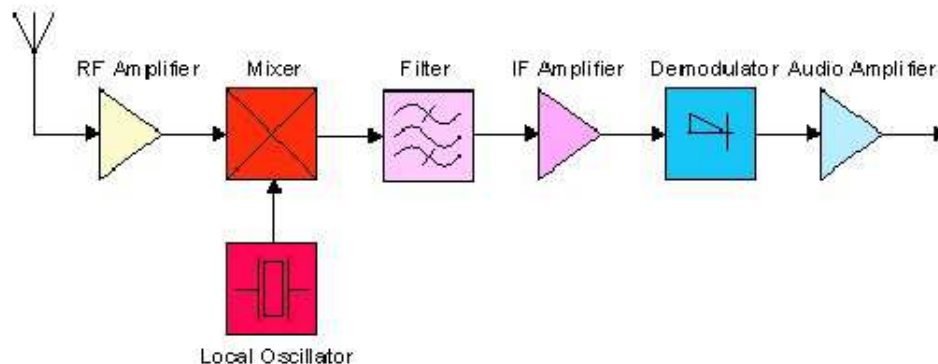

Figure 1: Superheterodyne Receiver
Fig.1. shows the minimum requirements for a single-conversion superheterodyne receiver design. The following essential elements are common to all superhet circuits: a receiving antenna, a tuned stage which may optionally contain amplification (RF amplifier), a variable frequency local oscillator, a frequency mixer, a band pass filter and intermediate frequency (IF) amplifier, and a demodulator plus additional circuitry to amplify or process the original audio signal (or other transmitted information). To receive a radio signal, a suitable antenna is required. This is often built into a receiver; especially in the case of AM broadcast band radios. The output of the antenna may be very small, often only a few microvolts. The signal from the antenna is tuned and may be amplified in a so-called radio frequency (RF) amplifier, although this stage is often omitted. One or more tuned circuits at this stage block frequencies which are far removed from the intended reception frequency. In order to tune the receiver to a particular station, the frequency of the local oscillator is controlled by the tuning knob